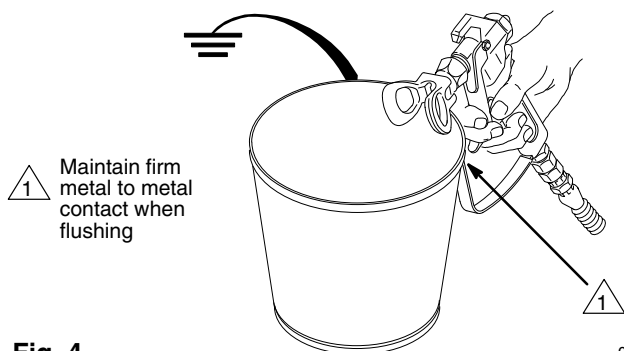

Fig. 4
- b. Turn the ON/OFF (C) switch to ON.
- e. Hold a metal part of the gun firmly against a grounded metal waste container. See Fig. 4.